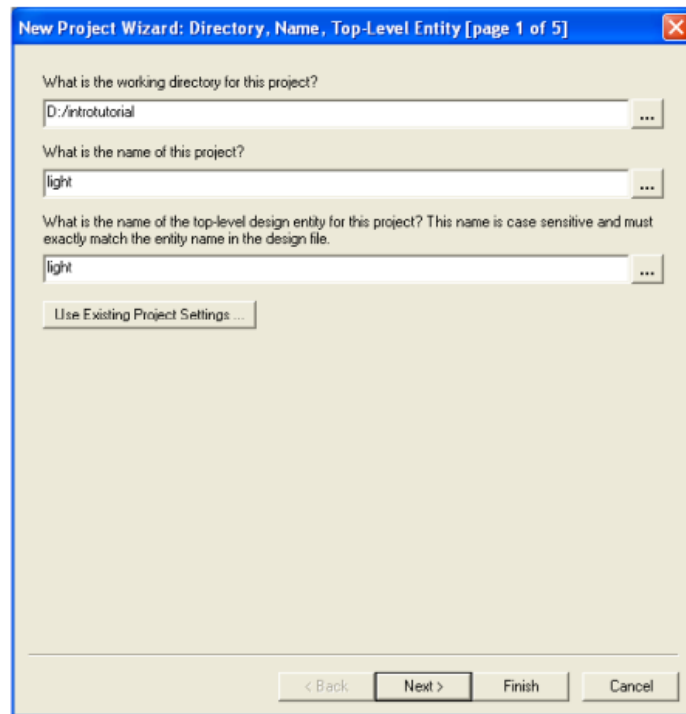

Figure 2: Creation of a new project
2. Select File > New Project Wizard to reach the window in Figure 2, which asks for the name and directory of the project.